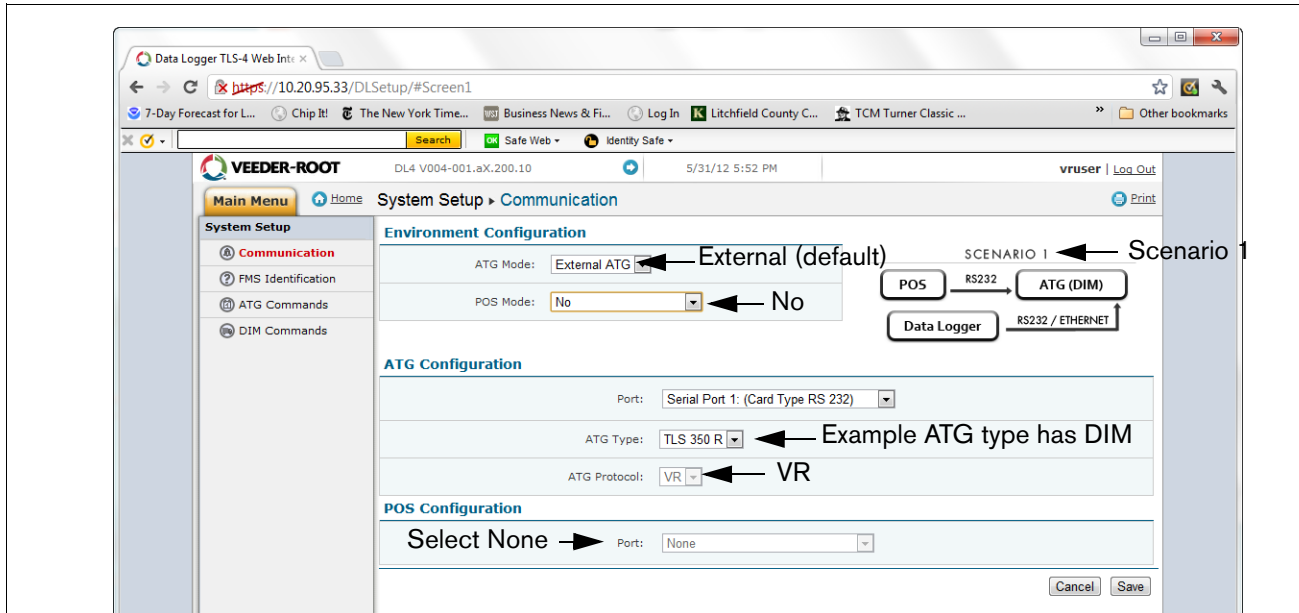

Figure 21. Example Environmental Configuration Page Settings - Scenario 1
**Scenario 1** - make the selections shown below if the POS is connected to the ATG, and the ATG is providing the DIM function and the DL is connected to a spare RS232 port on the ATG (see example in Figure 21).